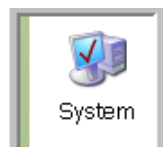

FIG. 192
2. Double click on the System Icon (FIG. 192).